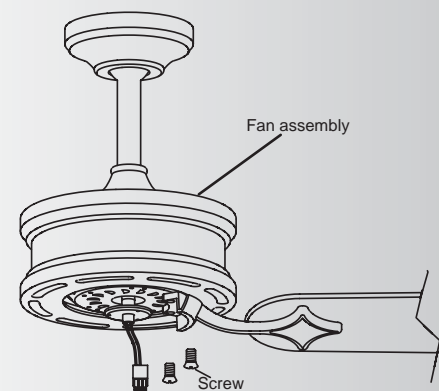

Fig. 17
Step 3. Fasten blade assembly to motor using “pre-installed” mounting screws in the blade bracket (Fig. 17)